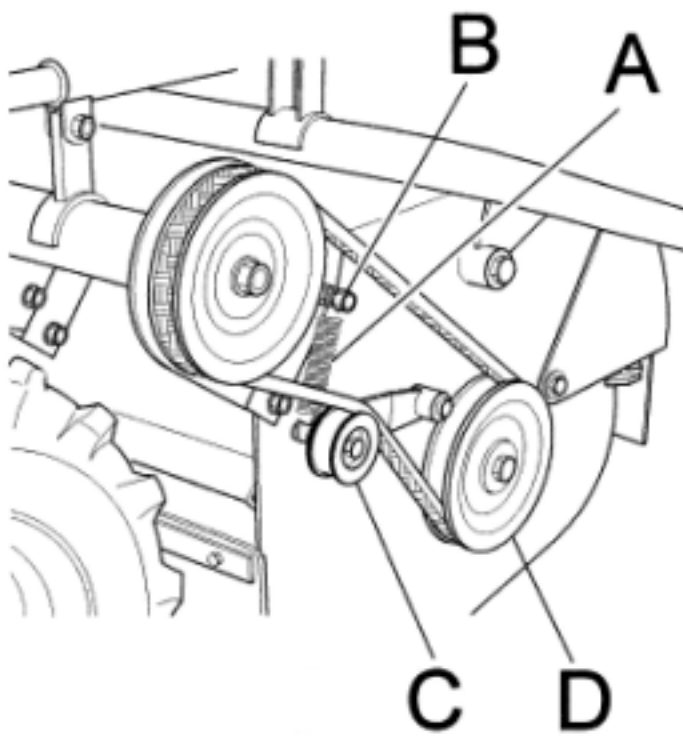

Fig. 10
- pull the spring (ref. A fig. 10) off the upper connecting screw (fig. 10 ref. B) , so that the belt tightener (ref. C fig. 10) remains free and lowers automatically.
- slip the belt off by turning the lower pulley in an anti-clockwise direction using your hand (ref. D, fig. 10).